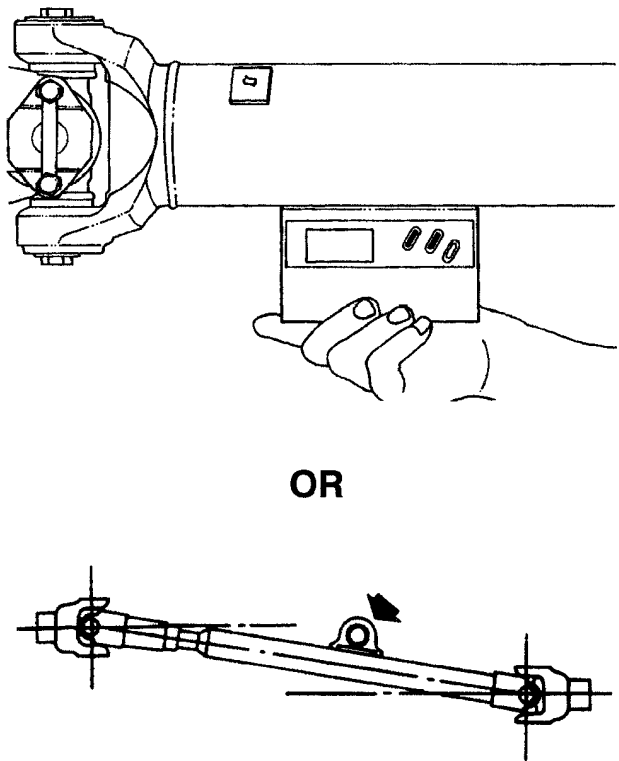

Figure 39 Record Propeller Shaft Angles Between Main Transmission and Forward Rear Axle
6. Check and record the propeller shaft angles between the main transmission and the forward rear axle (Figure 39).